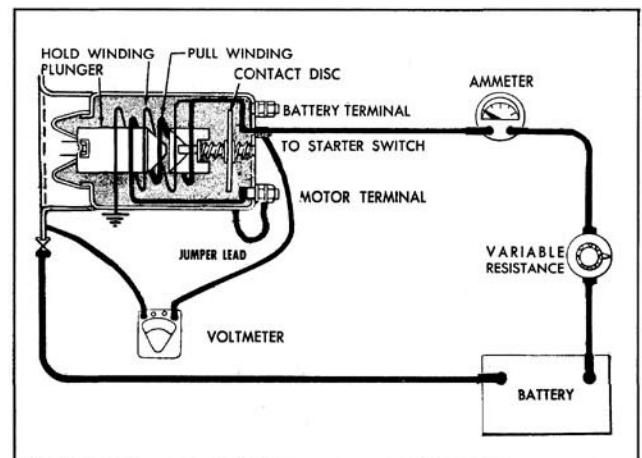

Fig. 13-57 Checking Solenoid Windings
- e. Check the current draw of the solenoid winding as follows: (Fig. 13-57)